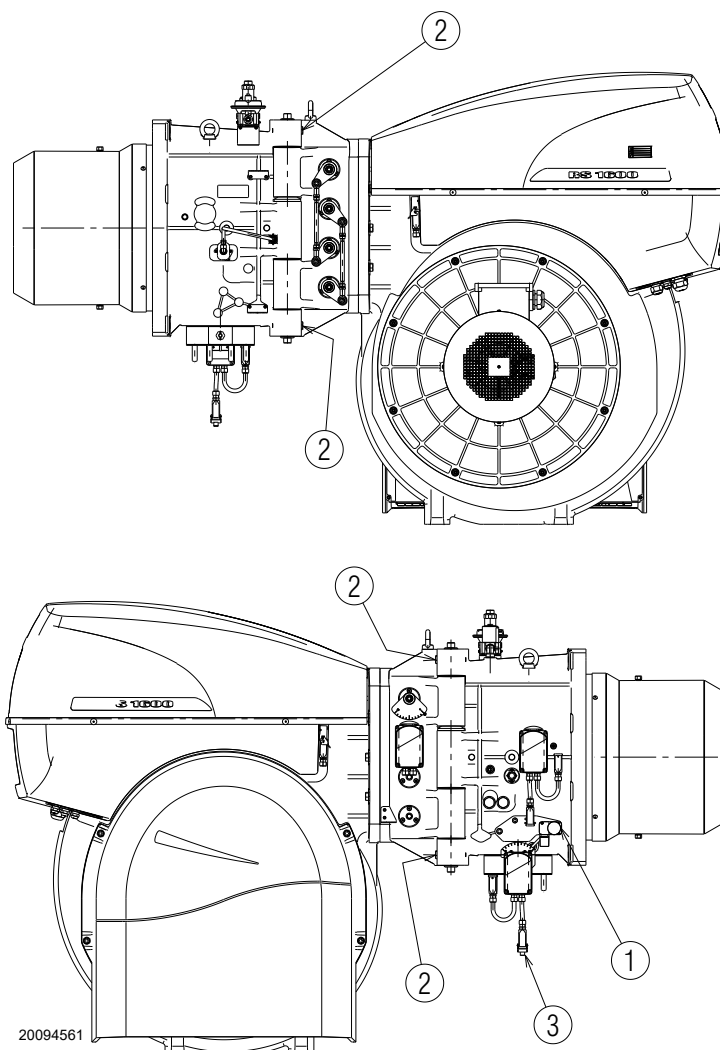

Fig. 38
- Remove the gas pressure switch connection 1)(Fig. 38).